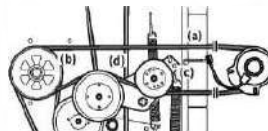

Figure 4-19
1. Remove the PTO belt (a) from the deck as instructed in the Deck Removal section then remove it from around the PTO clutch. See Figure 4-19.
2. Route the PTO belt (a) as shown in Figure 4-19.